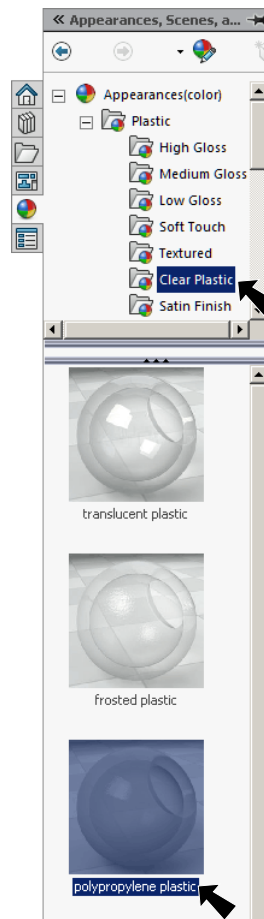

Fig. 20
Step 2. In the Appearances Task pane, expand **Plastic**, click **Clear Plastic** and in the lower pane select **polypropylene plastic**, **Fig. 20**.